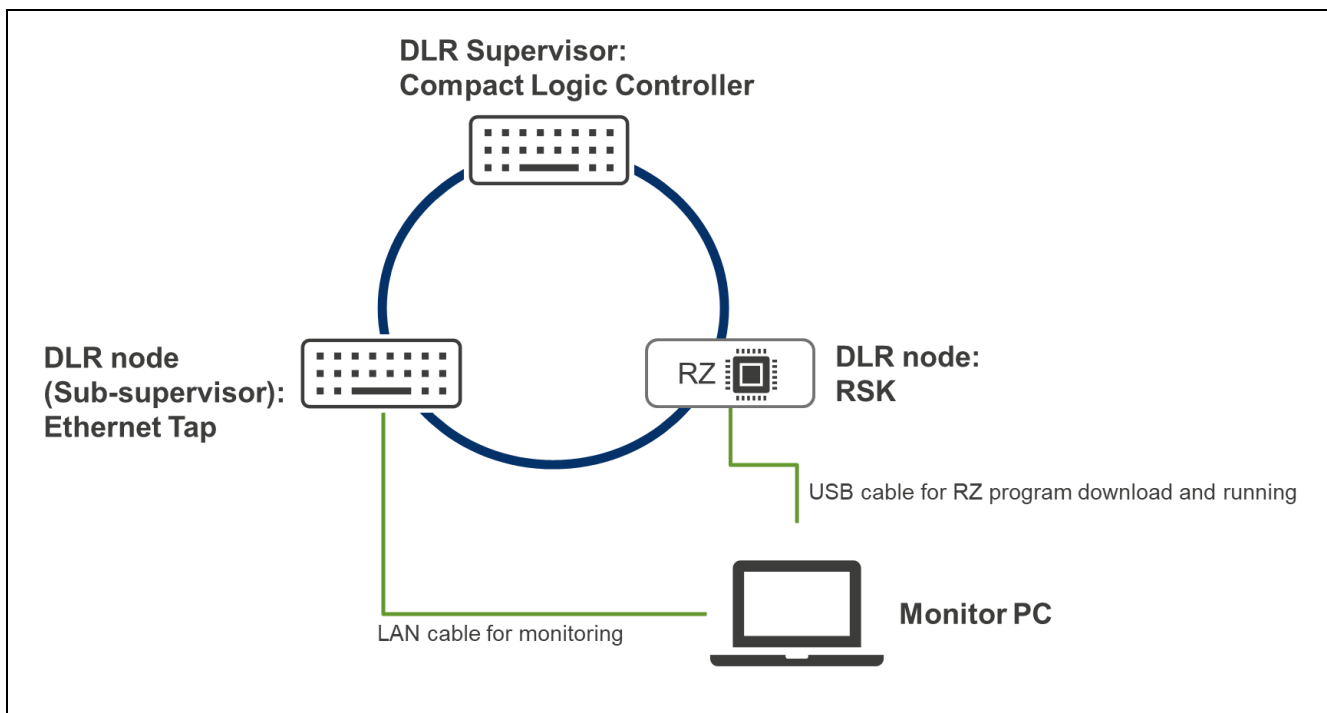

Figure 9.1 Topology for check
2. Establish the Figure 9.1 topology and power up.